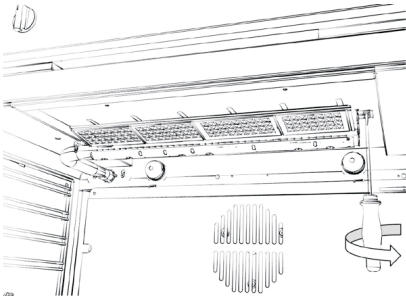

fig. 4
- 1- Remove the burner screw located at the top front of the oven cavity.(fig.4